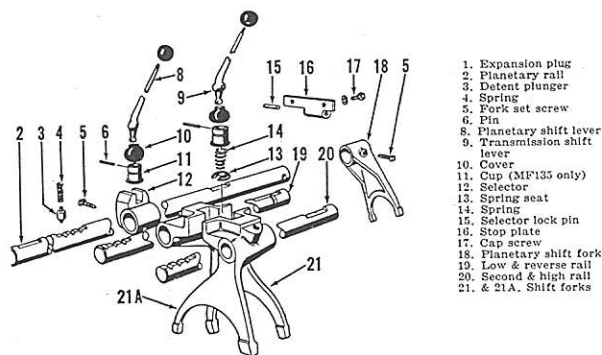

Fig. 213—Exploded view of shifter rails and forks of the type used on all models.
Unwire and remove the set screws retaining the selector and shifter forks to rails. Remove the detent springs (4—Fig. 213), plungers (3) and stop plate (16); then withdraw shifter rails and forks from transmission case.